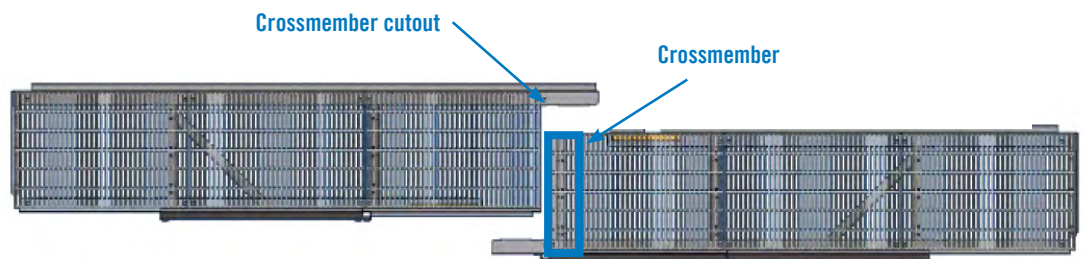

Figure 13.
- c. Slide the platforms until the crossmember cutout is aligned the with crossmember of the second section. Then slide the two sections together until the support beams are aligned, and the crossmember is seated into the cutout. See **Figure 13.**